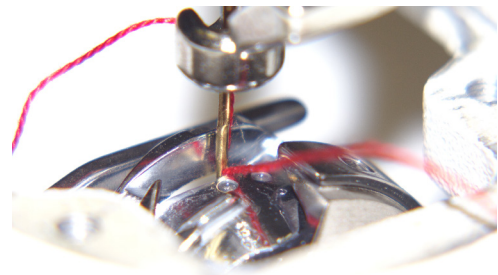

Figure 84
Step 5: Turn the hand wheel to locate the needle to its lowest position. Note: correct needle position is when you can see a small portion of the eye of the needle. *See figure 84*